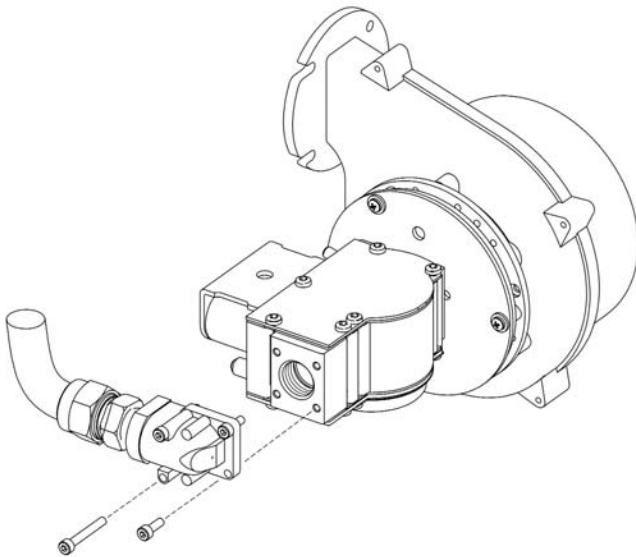

Figure 3
- Using a 3 mm hex key, remove (4) cap screws from gas valve inlet flange. See Figure 3.